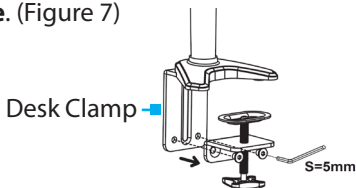

Figure 7
1. Remove the **Screws (x2)**, located at the bottom of the **Desk Clamp**, using the **5 mm Hex Key**, and remove the **Bottom Plate**. (Figure 7)